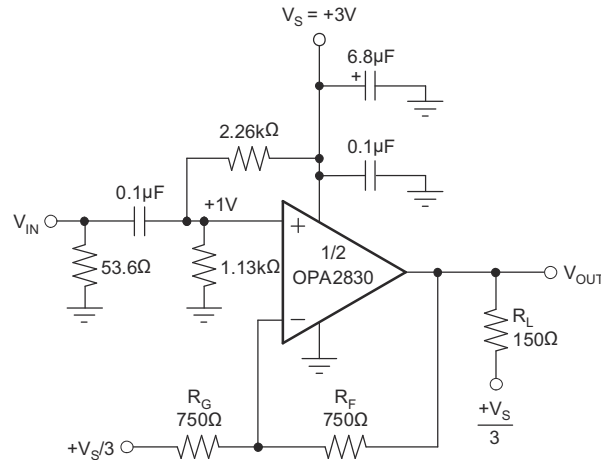
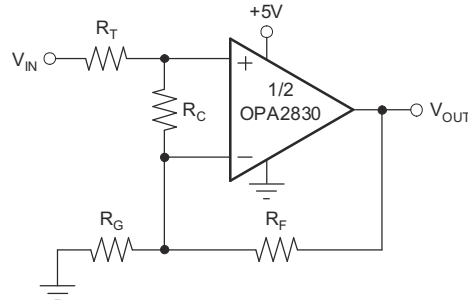

図 8-2. AC-Coupled, G = +2, 3V Single-Supply Specification and Test Circuit
Figure 8-8. Compensated Noninverting Amplifier
at  $T_A = 25^\circ C$ ,  $G = +2V/V$ , and  $R_L = 150\Omega$  to  $V_S/3$  (unless otherwise noted); see also Figure 8-2
図 8-2 shows the ac-coupled, gain of +2 configuration used for the 3V *Specifications* and *Typical Characteristics*. Voltage swings reported in the *Electrical Characteristics* are taken directly at the input and output pins. For the circuit of 図 8-2, the total effective load on the output at high frequencies is 150Ω || 1500Ω. The 1.13kΩ and 2.26kΩ resistors at the noninverting input provide the common-mode bias voltage. The parallel combination equals the dc resistance at the inverting input ( $R_F$ ), reducing the dc output offset due to input bias current.
Figure 8-8 shows a noninverting amplifier that reduces peaking at low gains. The resistor  $R_C$  compensates the OPA2830 to have higher Noise Gain (NG), which reduces the ac response peaking (typically 4dB at  $G = +1$  without  $R_C$ ) without changing the dc gain.  $V_{IN}$  needs to be a low impedance source, such as an op amp.
Frequency response in a gain of +2 can be modified to achieve exceptional flatness simply by increasing the noise gain to 3. One method, without affecting the +2 signal gain, is to add a 2.55kΩ resistor across the two inputs (see Figure 8-8). A similar technique can be used to reduce peaking in unity-gain (voltage follower) applications. For example, by using a 750Ω feedback resistor along with a 750Ω resistor across the two op amp inputs, the voltage follower response is similar to the gain of +2 response of Figure 8-2. Further reducing the value of the resistor across the op amp inputs, further dampen the frequency response due to increased noise gain. The OPA2830 exhibits minimal bandwidth reduction going to single-supply (5V) operation as compared with ±5V. This minimal reduction is because the internal bias control circuitry retains nearly constant quiescent current as the total supply voltage between the supply pins is changed.
The criterion for setting this  $R_S$  resistor is a maximum bandwidth, flat frequency response at the load. For a gain of +2, the frequency response at the output pin is already slightly peaked without the capacitive load, requiring relatively high values of  $R_S$  to flatten the response at the load. Increasing the noise gain also reduces the peaking (see Figure 8-8).